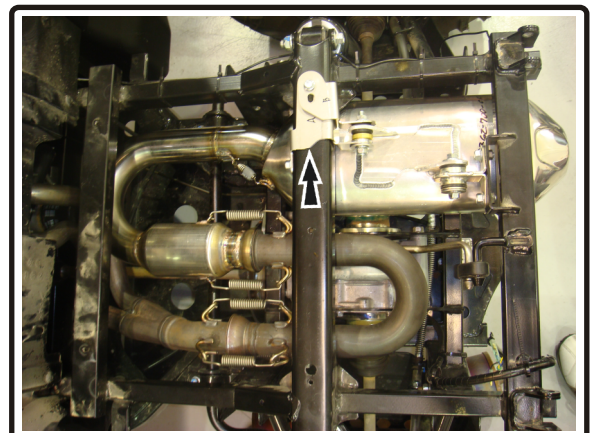

Fig 2
11. Install Yoshimura muffler mounting brackets A & B as shown in parts diagram and Figure 2.